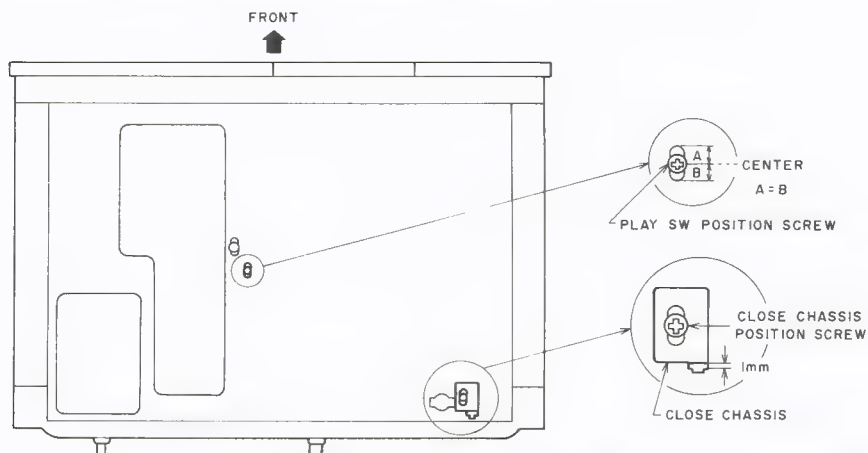

Fig. 6-7 Play SW/Close Chassis Position ADJ (Bottom View)
## 6-9 PLAY SW (SW902) POSITION ADJUSTMENT (Refer to Fig. 6-7)
- 2) Tighten the Play SW Position Screw in the center of the screw hole as shown in Fig. 6-7.
## 6-10 CLOSE CHASSIS (FOR CLOSE SW: SW2 on LIMIT PCB) POSITION ADJUSTMENT (Refer to Fig. 6-7)
- 2) Tighten the Close Chassis Position Screw in the position in which there is 7 mm distance between the Close Chassis and the hole on the Bottom Cover as shown in Fig. 6-7.